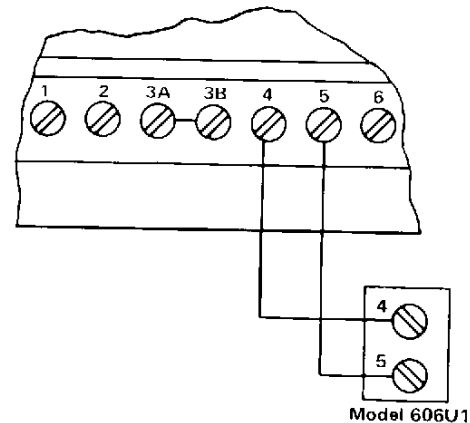

Figure RWD1: Wiring Connections for Model 606U1 with any 609 Series Function Card. (Only accessory wiring shown for clarity.)
4. For remote alarm indication, use ESL Model 606U1 and wire as shown in Figure RWD1.
- For remote alarm indication, use ESL Model 606U1 and wire as shown in Figure RWD1.
- a. Model 606U1 Wiring Diagram—Figure RWD1